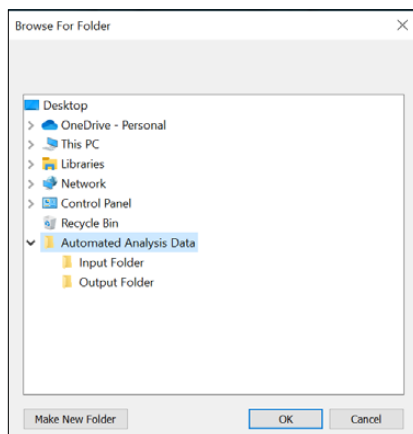

Fig. 5. Window with all folders needed.
- i. Click the **Automated Analysis Data** folder and click the **Make New Folder** button. Name this new folder Output Folder. Click anywhere in the window once complete. All necessary folders for the tool have been created (Figure 5).